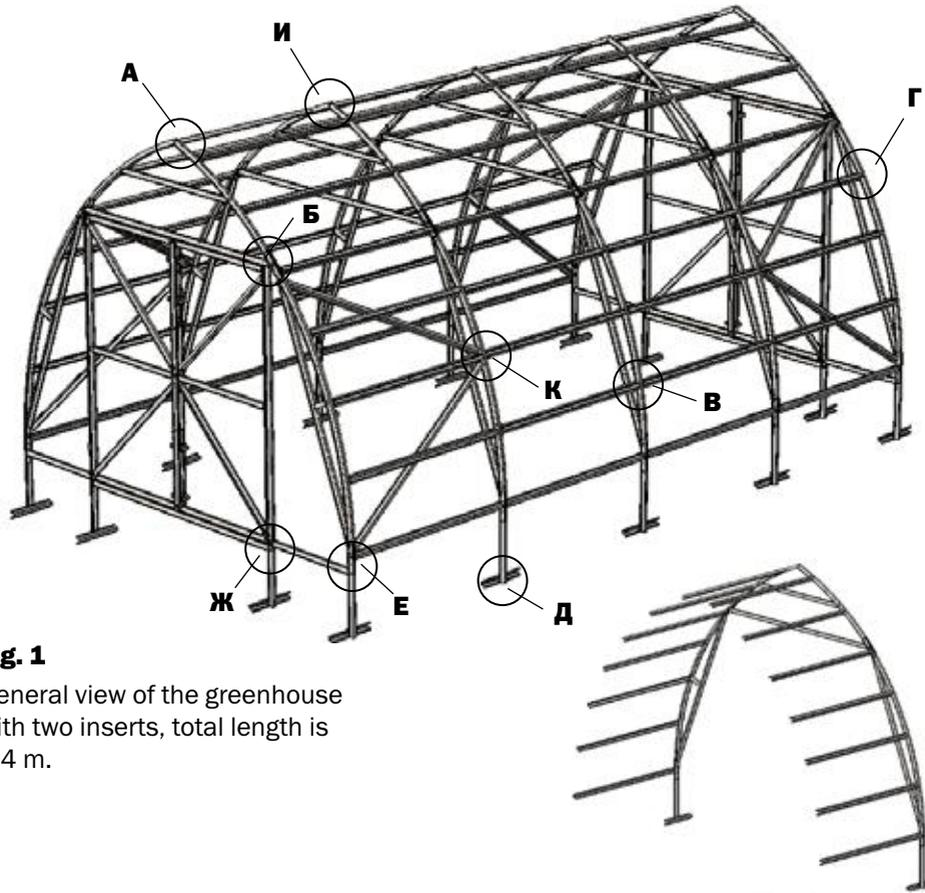

Fig. 1
- The general view of the frame is presented in **fig. 1**. The frame is assembled from the shape numbered parts. Medium shape shelves are facing the covering..